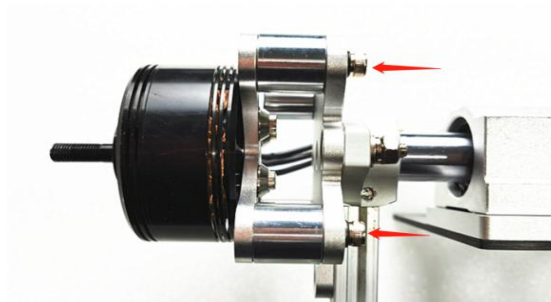

Fig. 2.1.5 Installation Completed
(3) Install the motor on test stand with screws. Motor cables should be on the side of the ESC Mounting Plate, as shown in Fig. 2.1.5: